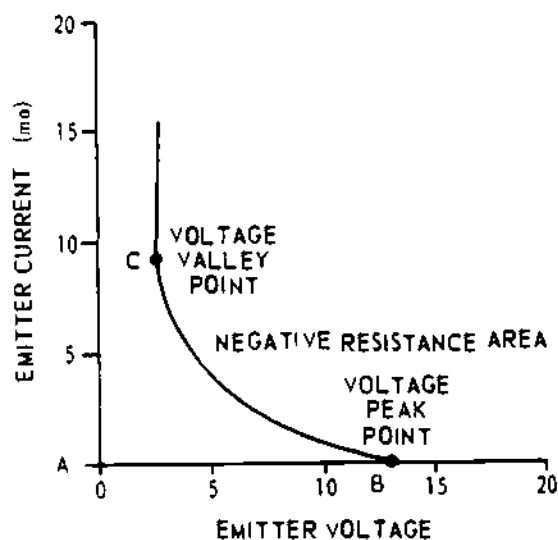

Figure 33-3. UJT Characteristic Curve
The applied voltage will be distributed evenly across the N material. The emitter to B1 junction will be reverse biased because the voltage at the point where the emitter material is attached to the N material is at approximately +13 V. The emitter current at this time will be zero and the UJT will be in its low conduction condition. This situation is illustrated as the peak voltage point (B) on figure 33-3.
The 15 volts applied to the emitter will forward bias the emitter-base 1 junction and a high emitter current will flow. The high concentration of electrons (carriers) in the area between E and B1 causes the resistivity of the material to decrease and the voltage across the N material to be redistributed, as shown. The emitter current through R1 will drop the emitter voltage from 15 V to 3 V. Referring to figure 33-3, the UJT is now operating at point C on the curve.